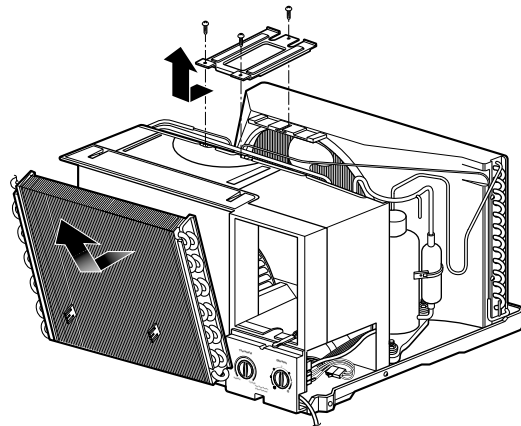

Figure 4
7. Move the evaporator forward and pulling it upward slightly. (See Figure 4)